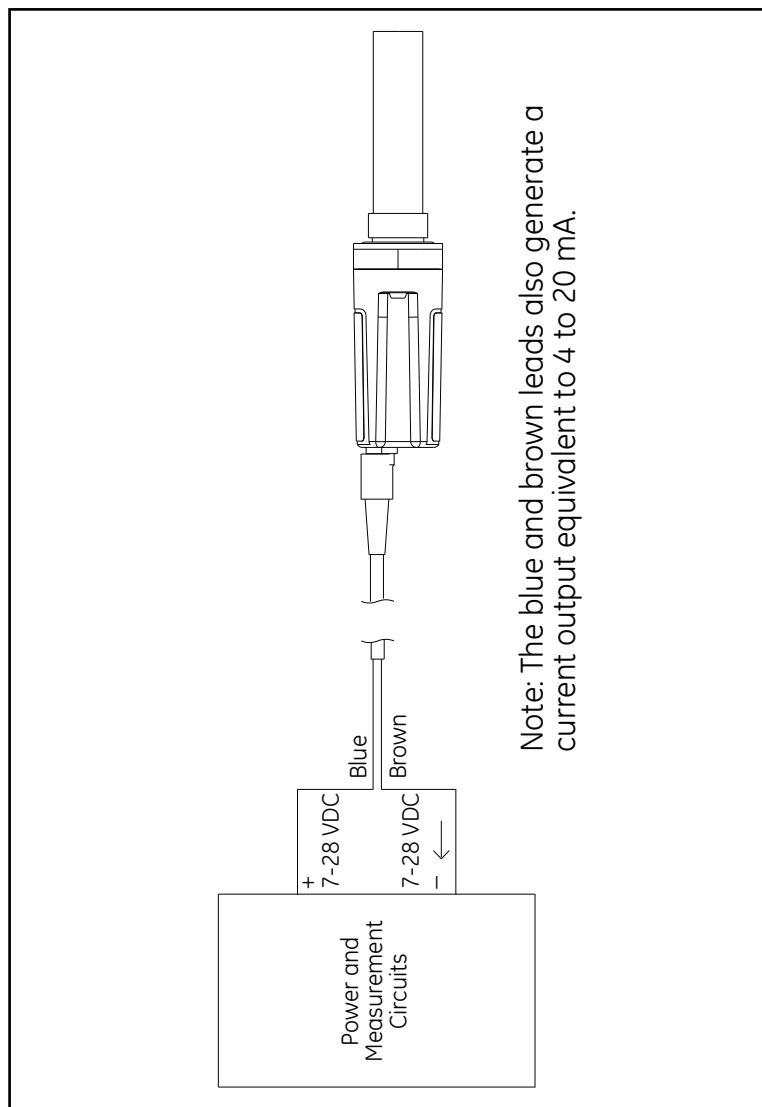

Figure 2: Wiring Connections
- Using the flying leads at the other end of the transmitter cable, connect the transmitter to your power supply and data acquisition system (DAS), as shown in Figure 2 on page 4. Refer to Table 1 below for a description of the leads on the factory-supplied cable.